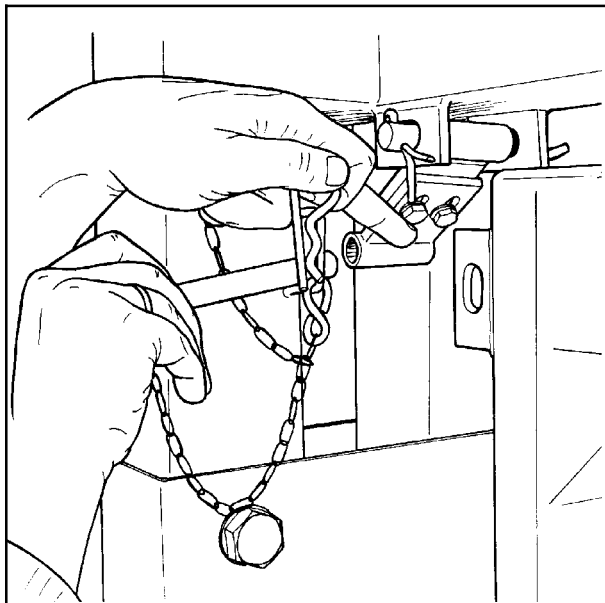

Fig. 4-6
6. Remove the locking bolt that holds the wrapping arm to the frame during transport. (See fig. 4-6).